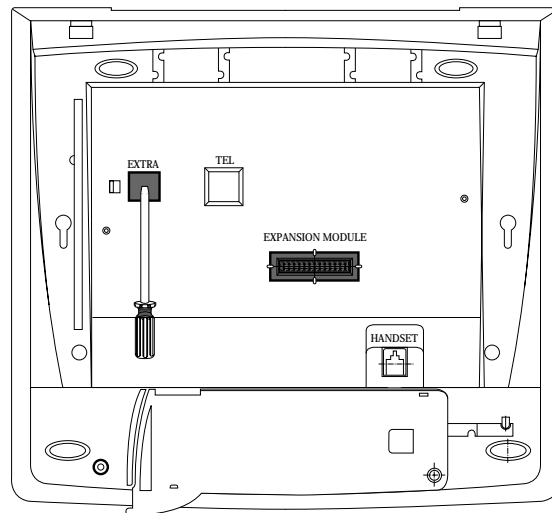

FIGURE 8-3 BOTTOM OF KTS (Euro KTS)
3. Remove extra molding substances by the same method as step2. (See Figure 8-3)
2. Remove with a driver molding substances of expansion module of base housing. (See Figure 8-3)